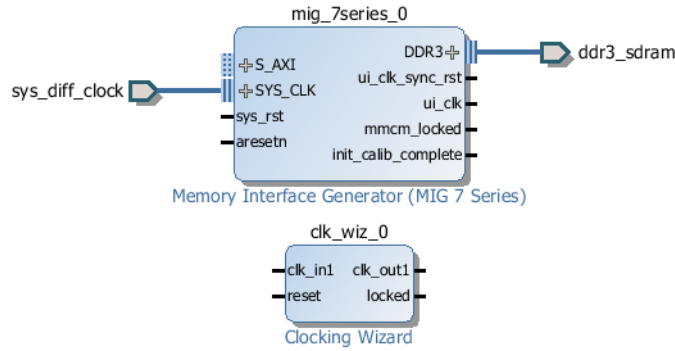

Figure 5-9: Clocking Wizard
1. Select the **Add IP** command, type **Clock** into the search field, and select the **Clocking Wizard** IP. Figure 5-9 shows a Clock Wizard IP with a Memory IP core within a design.